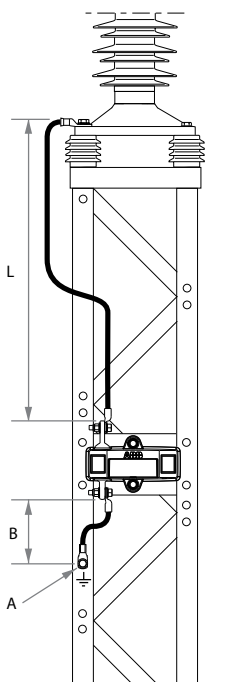

Figure 8.5.1
- The length of the conductor between the arrester and the surge counter is to be minimum 0,5 m when a clip-on CT is to be used for control measurements of leakage current. The maximum length shall not exceed 3 m in the case of the insulating base and conductor having a LIWV of 15 kV. Longer lengths up to 10 m could be used with an insulating base having suitably higher LIWV. The insulated base and conductor shall then be insulated for  $5 \times L$  kV (LIWV), where L is the conductor length in meters as shown in figure 8.5.1. Note that connection leads should always be kept as short as possible as longer leads result in a disadvantage from a protection point of view since inductance is added in series with the arrester.
- The conductor from the earth terminal of the counter to connection with the grounded support stand (point A in figure 8.5.1) on to which the counter is attached (or similar support) shall not exceed 0,5 m. For example, length B as shown in figure 8.5.1. The earth conductor may be extended from the connection point at the support to any "earth point" if the support itself, due to local requirements, is not considered as sufficiently grounded. However a flashover of the arrester base may occur if the length (L+B in figure 8.5.1) results in the LIWV as described above being exceeded and the counter may be damaged if the length B exceeds 0.5 m.